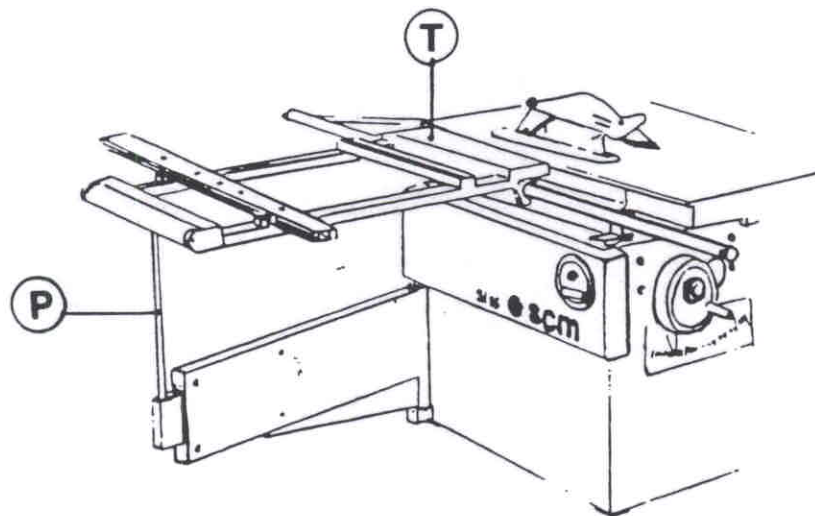

Fig.14
Set it in normal position see fig.14, then fit pivot (P) into one of the holes at the table ends.